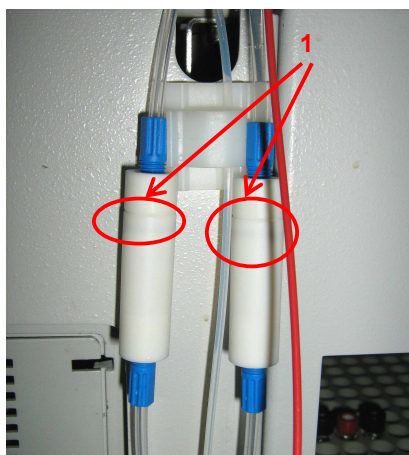

Figure 3: De-bubbler orientation
2. When attaching the de-bubblers ensure that the side with the o-ring in the cartridge (there is a ridge (1) in the de-bubbler tube) is on top (Figure 3)